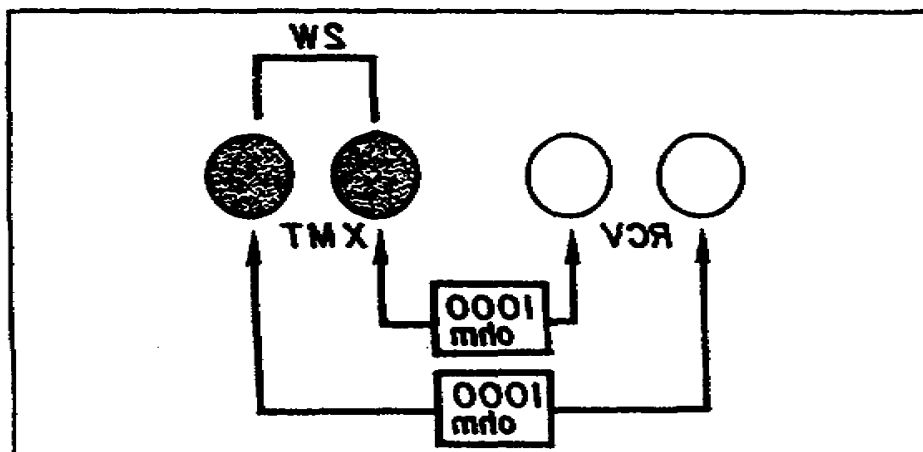

Figure 1-18. Resistor connection.
d. Press each binding post until its slot is visible and place one 1000-ohm resistor between one XMIT (black) binding post and one RCV (red) binding post. Release the binding post to secure the resistor. Then place another 1000-ohm resistor between the other XMT and RCV binding posts. (See Figure 1-18.)